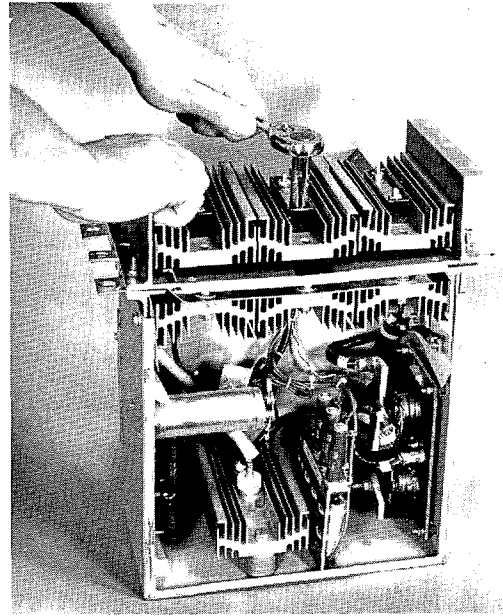

FIGURE 15
6. Remove the bolt, two flat washers and nut that holds the heatsink associated with the defective SCR cell to the DC bus (P1 or N1). See Figure 15.